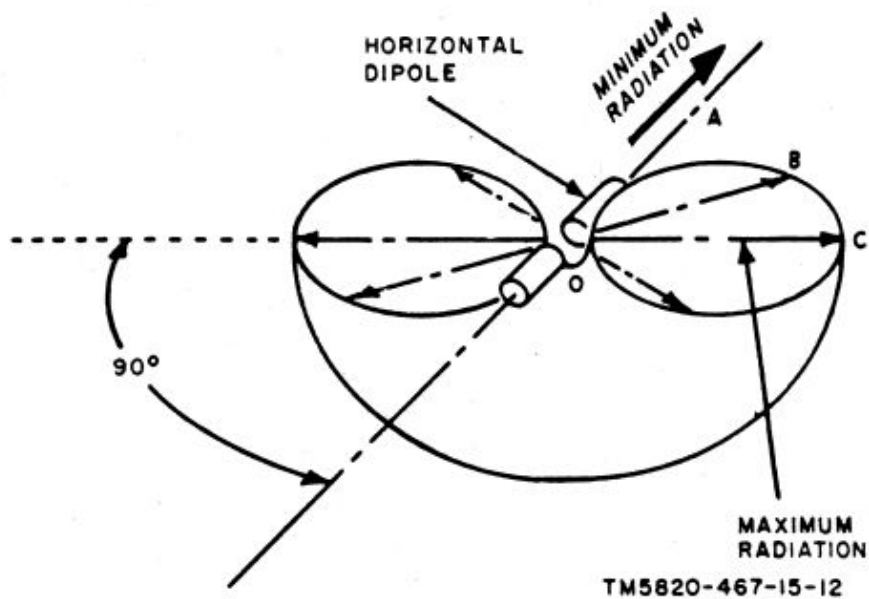

Figure 12. Radiation pattern of half wave antenna.
- (1) Maximum radiation occurs at the center of a half wave antenna, because the current is greatest at that point. Minimum radiation takes place at the ends, because the current is least at the ends. Radiation is at right angles to the plane of the antenna wire and completely encircles the antenna wire. The resulting antenna directional pattern can be compared to a doughnut with the radiator passing through its center. Figure 12 shows a cross section of the doughnut shaped pattern. Although there is no radiation along the direct line